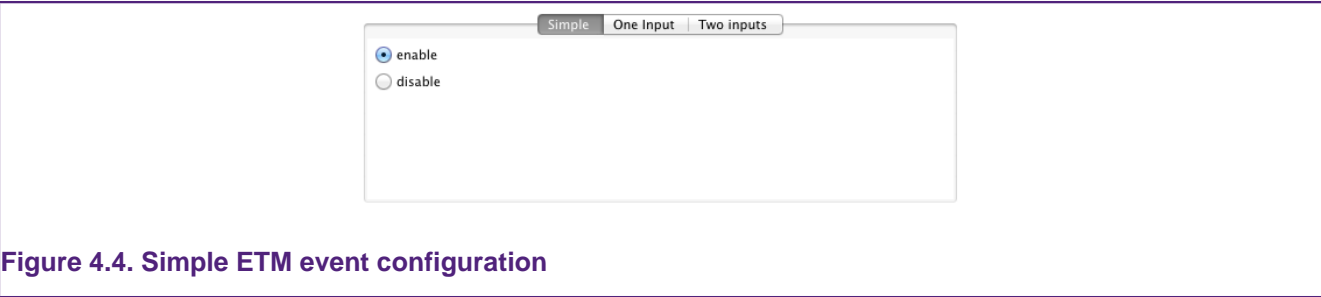

Figure 4.4. Simple ETM event configuration
- The simplest option is a binary enabled/disabled choice. This is accessed by selecting the **Simple** tab. Select **enable** for the Event to always be true or **disable** for the event to always be false. See Figure 4.4.